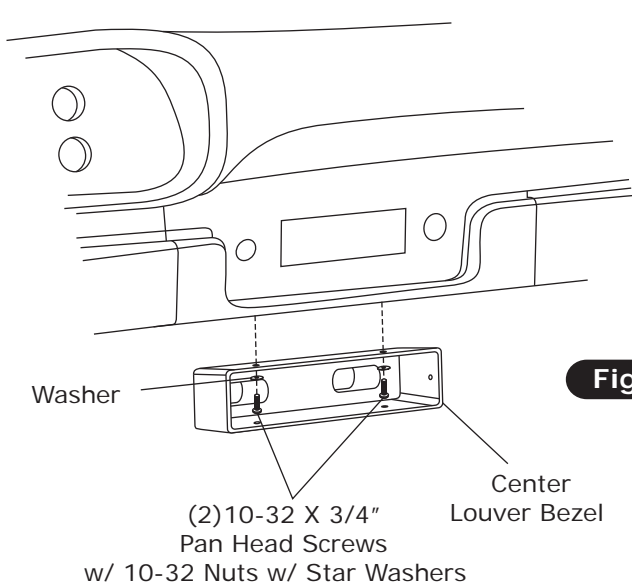

Figure 15
1. Install the center louver bezel under the dash and secure using (2) 10-32 x 3/4" pan head screws w/ washers and 10-32 nuts w/star washers as shown in Figure 15, below.
2. Install the center louver into the bezel as shown in Figure 15, below.